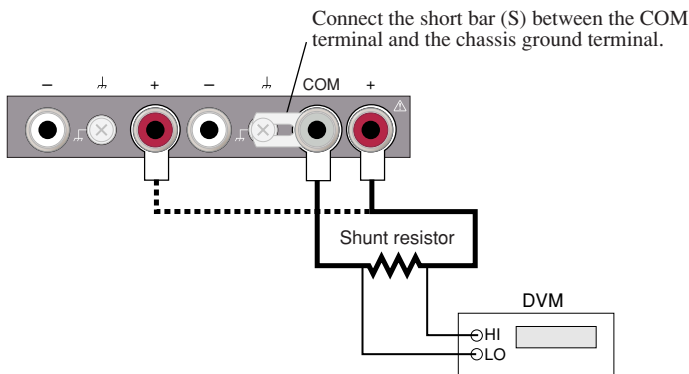
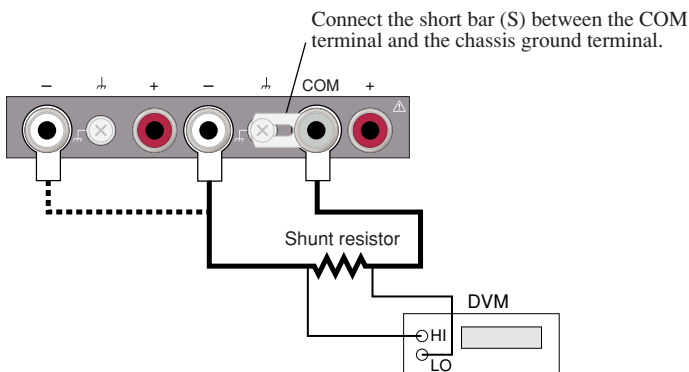
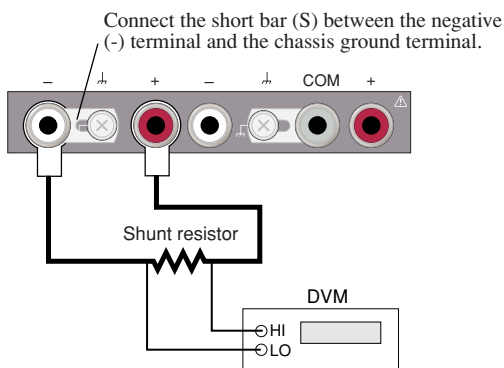

Fig. 6-5 Connections for current calibration (+ output)
Fig. 6-6 Connections for current calibration (- output)
Fig. 6-7 Connections for current calibration (6 V output)
2. Connect the shunt resistor and DVM to the output terminal to be calibrated. To calibrate the positive (+) output, see Fig. 6-5. To calibrate the negative (-) output, see Fig. 6-6. To calibrate 6 V output (for the PMR-TR type only), see Fig. 6-7.